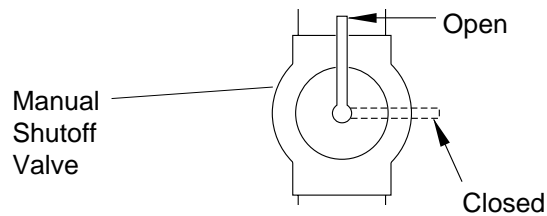

Figure 20 - Manual Shutoff Valve
1. Close manual shutoff valve (see Figure 20).
3. Check all joints from propane supply tank to manual shutoff valve (see Figure 20). Apply mixture of liquid soap and water to gas joints. Bubbles forming show a leak.
1. Open manual shutoff valve (see Figure 20).